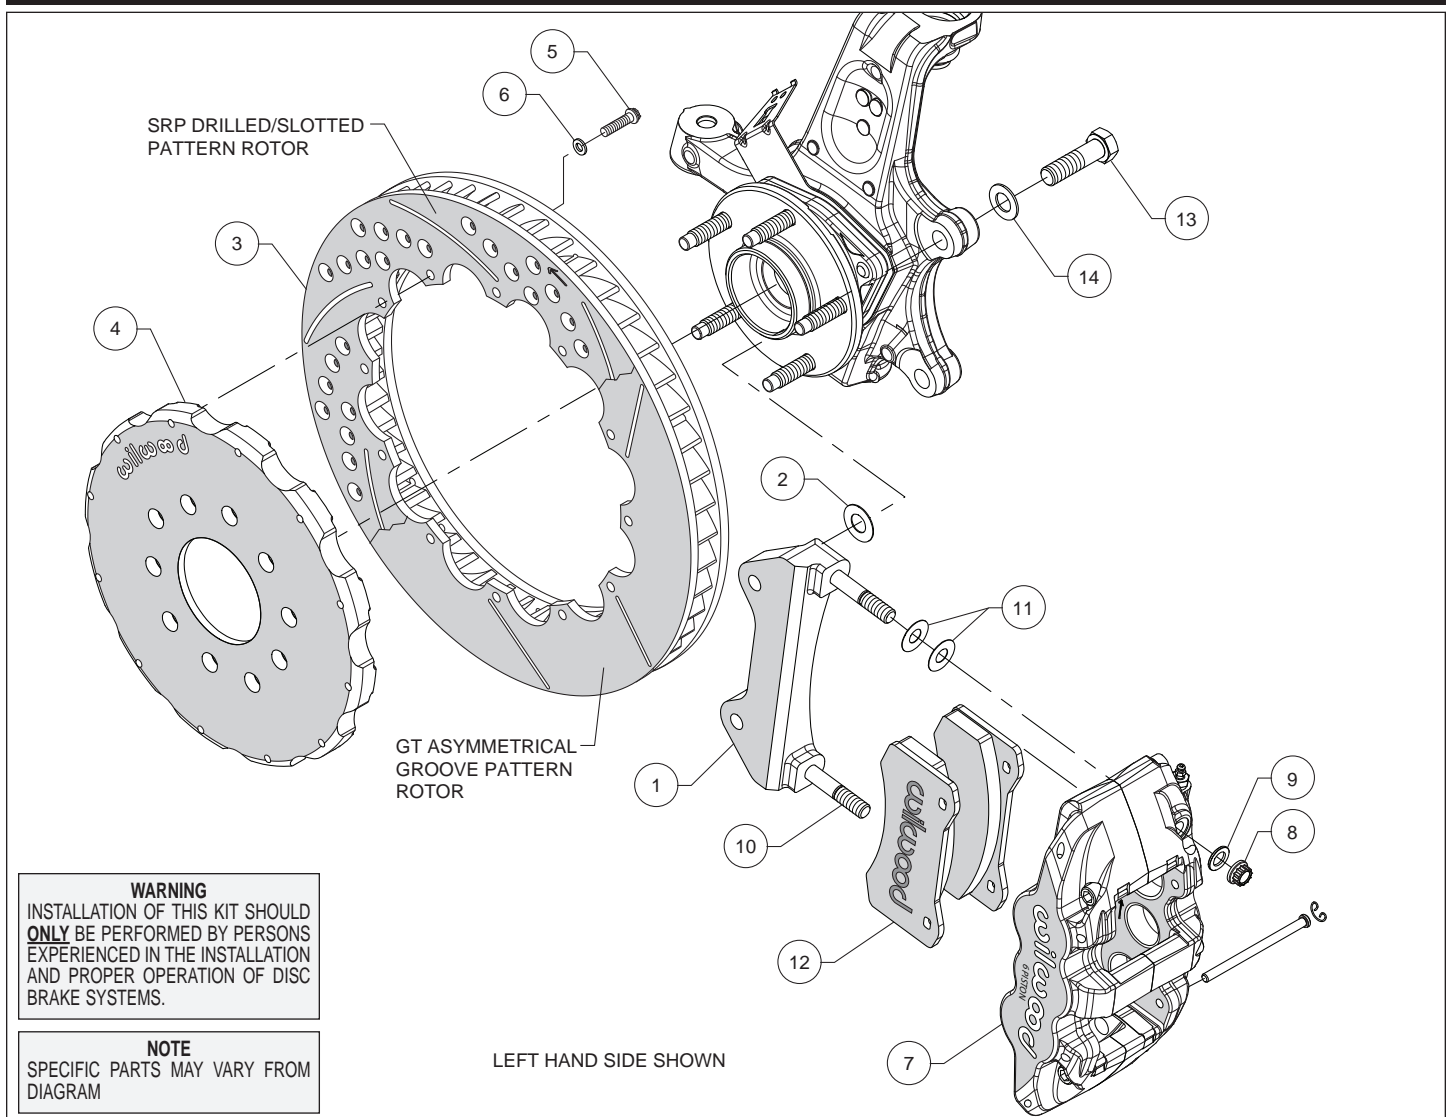
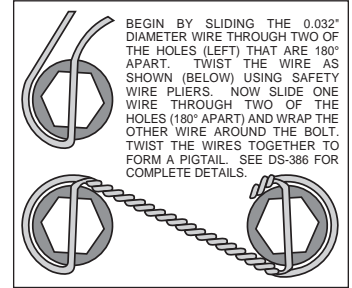

Figure 1. Typical Installation Configuration
Figure 3. Safety Wire Diagram
**Assembly Instructions** (numbers in parenthesis refer to the parts list and Figure 1 on the preceding pages):
- The caliper mount bracket (1) should initially be installed with clean, dry threads on the mounting bolts. Orient the bracket, as shown in Figure 1 and install using bolts (13) and washers (14). Initially place one .029" thick shim (2) on each bolt between the bracket and upright, Figure 1. Temporarily tighten the mounting bolts. **NOTE:** *The bracket must fit squarely against the mount bosses on the upright.* Inspect for interference from casting irregularities, machining ridges, burrs, etc. Later, after the caliper alignment has been checked, the mount bolts will be secured using red *Loctite*® 271.
- Orient the rotor (3) and the hat (4) as shown in Figure 1 and Photo 1. Attach rotor to hat using bolts (5) and washers (6). Using an alternating sequence, apply red *Loctite*® 271 to the threads, and torque to 155 **in-lbs**. For an added measure of security, the bolts may be safety wired using standard 0.032 inch diameter stainless steel safety wire as shown in Figure 3. Refer to Wilwood's data sheet DS-386 (available at [www.wilwood.com/Pdf/DataSheets/ds386.pdf](http://www.wilwood.com/Pdf/DataSheets/ds386.pdf)) for complete safety wire installation instructions.
- NOTE:** *This kit contains distinct right and left hand calipers that must be mounted in a specific direction, as described below.* Lubricate the caliper mounting studs (10) with lightweight oil. Initially place two .030" thick shims (11) on each stud between the caliper and the bracket, as shown in Figure 1 and Photo 2. Mount the caliper (7) onto the bracket (1) using lock nuts (8) and washers (9), Figure 1. Temporarily tighten the lock nuts. Ensure that the caliper is mounted so the largest pistons are at the rotor exit end of the caliper, in relation to the direction of the rotor. View the rotor through the top opening of the caliper. The rotor should be centered in the caliper, Photo 3. If not, adjust by adding or subtracting shims (2) between the bracket and the upright. Always use the same amount of shims on each of the two mounting bolts. Once the caliper alignment is correct, remove the bracket mounting bolts one at a time, apply red *Loctite*® 271 to the threads, and torque to 77 ft-lbs.
- Remove the two pad retaining pins from the caliper (7) by carefully popping out the pin retaining clips and sliding out the pins. Insert the brake pads (12) into the caliper from the bottom, Figure 1 and Photo 4. With the friction material facing the rotor, secure the brake pads in place with the pad retaining pins and clips, Photo 5. Reinstall the caliper onto the caliper mounting bracket and temporarily tighten the lock nuts. Check that the top of the brake pad is flush with the outside diameter of the rotor, Photo 6. If not, adjust by adding or subtracting shims (11) between the caliper and the bracket. After the caliper pad height is set, torque the caliper lock nuts (8) to 47 ft-lb.